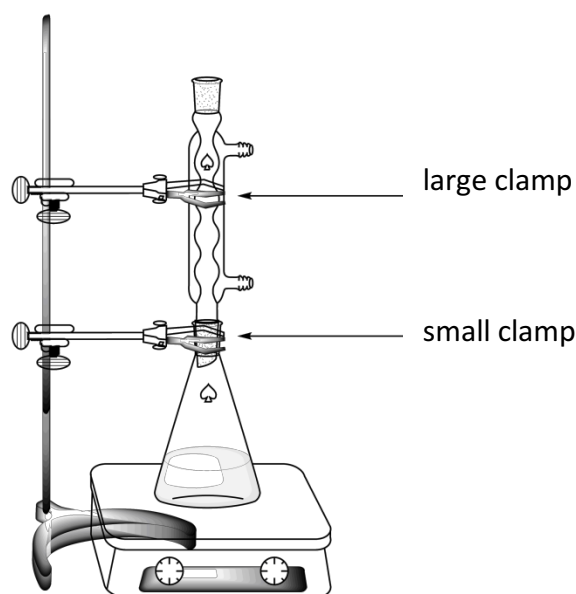

Figure 1. Setup for heating the reaction mixture under reflux
- Attach** the reflux condenser by loosening the large clamp and adjusting the ground joints (see Figure 1). **Raise** your HELP card. A lab assistant will come to turn on the water and set the hotplate.
2. **Perform** the recrystallization of the crude product using the above prepared water/ethanol mixture and the same reflux heating setup (see Figure 1) on the 50 mL ground-joint Erlenmeyer flask. **Raise** your HELP card. A lab assistant will come to turn on the water and set the hotplate. The solvent mixture can be added from the top of the condenser.